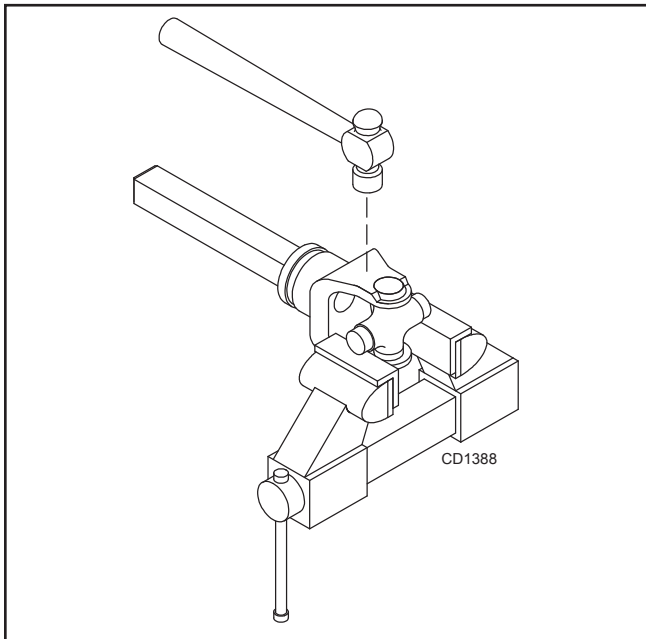

Figure 26. Remove Bearing Cups
4. Place universal cross in vise as shown in Figure 26 and tap on yoke to remove cup. Repeat Step 3 for final removal. Drive remaining cup out with a drift and hammer.